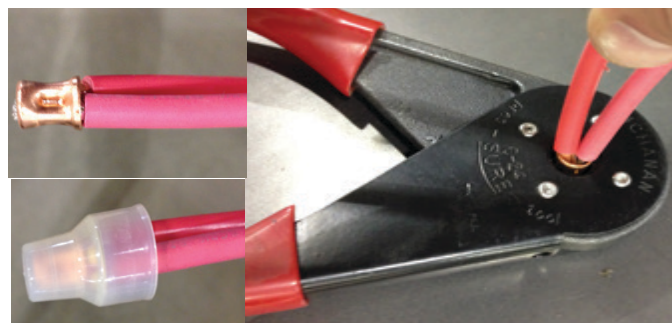

Figure 2
STEP 2: Place metal crimp around the wires, crimp and place protective cover over crimp. *(See Figure 2)*